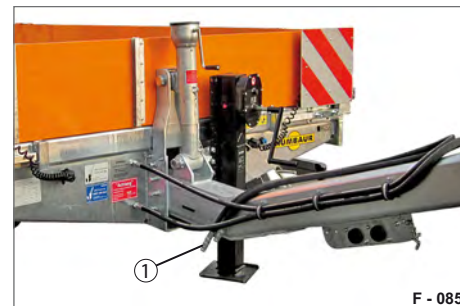

Fig. 33 Parking the hydraulic line
- ▶ Lay the hydraulic lines (Fig. 33/1) firmly on the tube drawbar; if necessary, park the line connections into the parking sockets on the front wall.